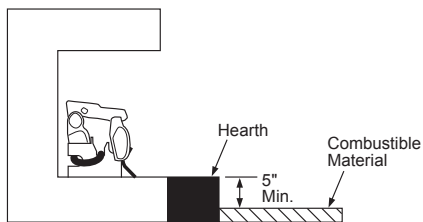

Figure 9 - Minimum Fireplace Clearances Above Combustible Flooring
- B. If combustibles are less than 14" to the fireplace, you must install appliance at least 5" above the combustible flooring (see Figure 9).